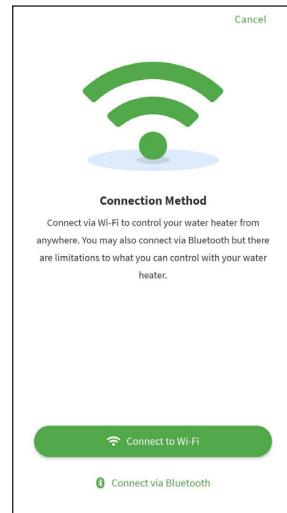

Figure 144 - Connect to Wi-Fi
**6** Choose to connect via Wi-Fi or Bluetooth (Figure 144).